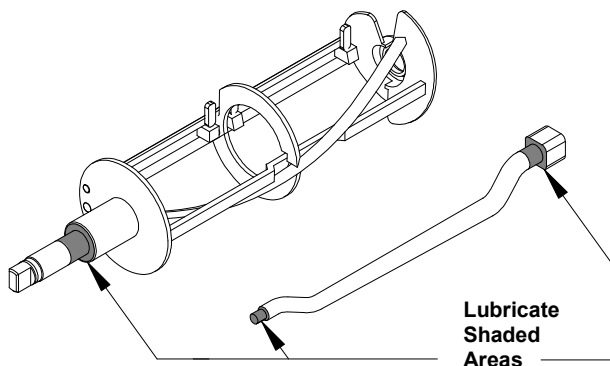
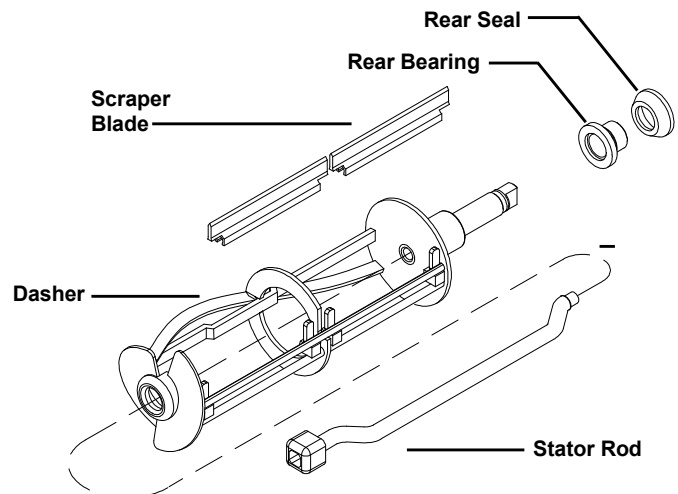

Fig. 14
Fig. 15
- a. Apply a generous amount of lubricant to the shoulder of the dasher and the area of the shaft where the white plastic portion of the assembled rear seal contacts the shaft (Fig. 14). This is easily performed by running a 1/4" (6 mm) bead of lubricant around the shoulder of the dasher.
- b. Lubricate the two areas of the stator rod (Fig. 14) and slide the stator rod into the dasher (Fig. 15). Make certain that the end of the stator rod is inserted into the hole at the rear of the dasher.
- c. Assemble and install the rear seal with the rubber portion toward the rear of the freezing cylinder as indicated in Fig. 15.